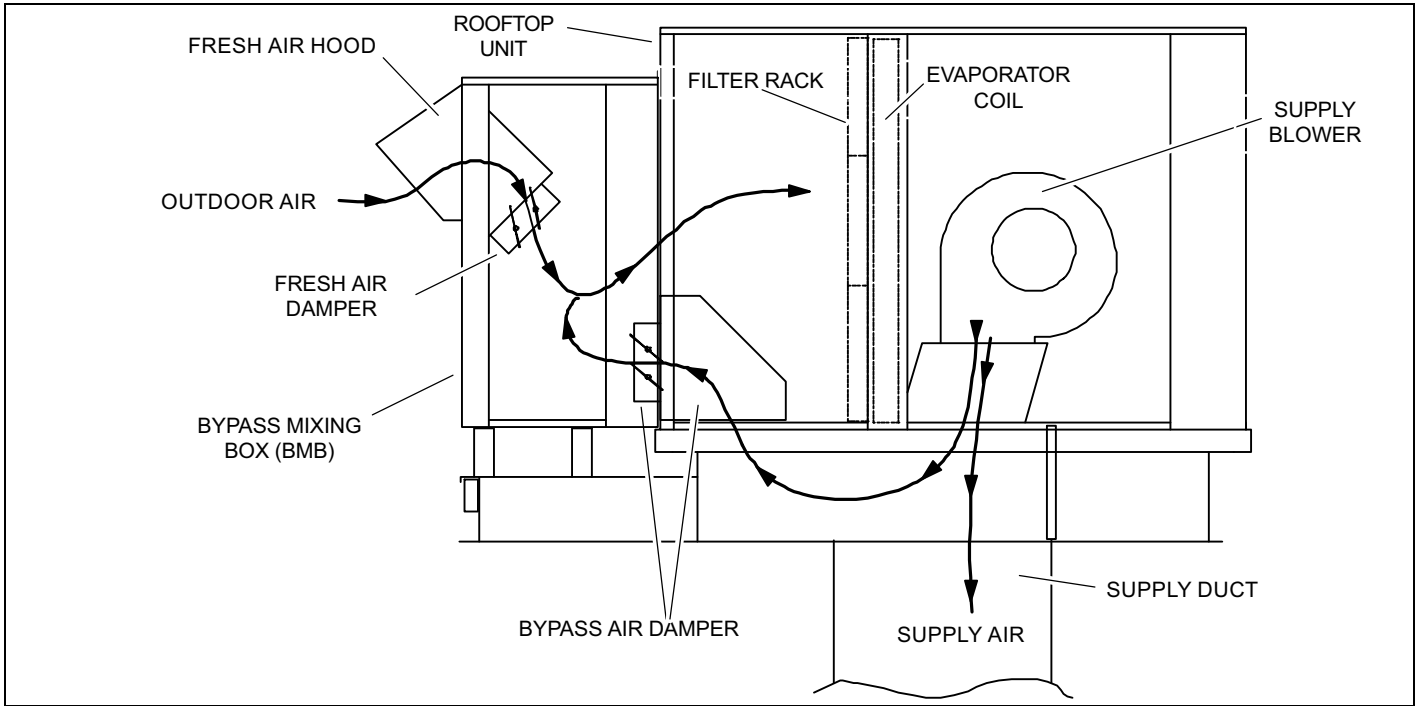

Figure 2. Bypass Air Damper (036-300s; 3 to 25 Ton Units)
4. Install the bypass air damper as shown in figures 2, 3, and 4.
5. Install the bypass mixing box as shown in figures 2, 3 and 4.
6. Install the fresh air damper and hood as shown in figure 2.